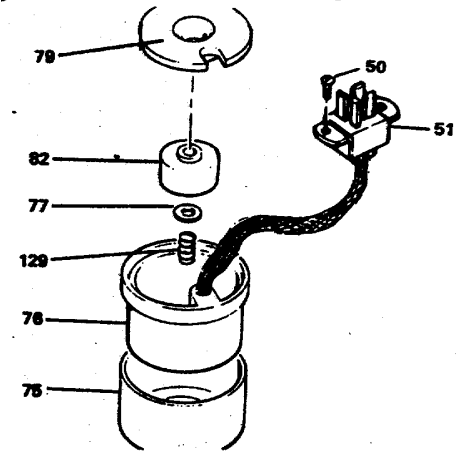

Figure 12-25. Transducer Parts Assembly
- (21) Assemble transducer cup (75), transducer solenoid (76), washer (77), magnet (78), and coil cover (79). See figure 12-25. Plug (51) is attached to the transducer.
- (22) Install transducer assembly on pilot valve plunger and attaching plug (51) to case with screws (50). Be sure connections of plug (51) match the connections in cover.